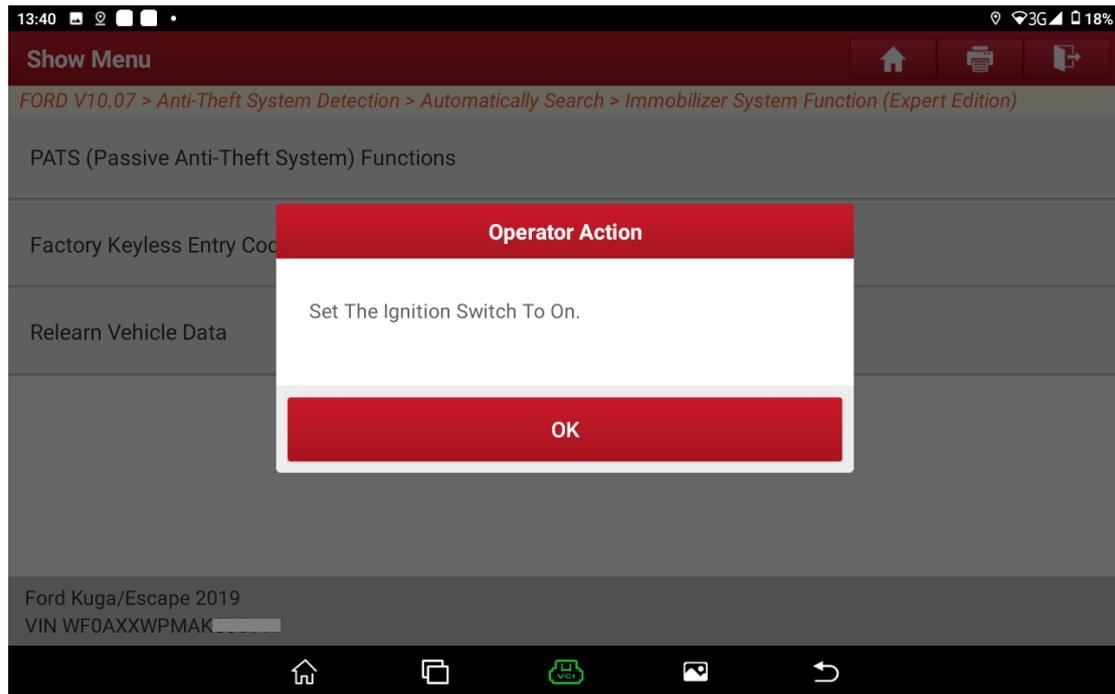

Figure 21
19. Prompt to turn on the ignition switch. See Figure 21.